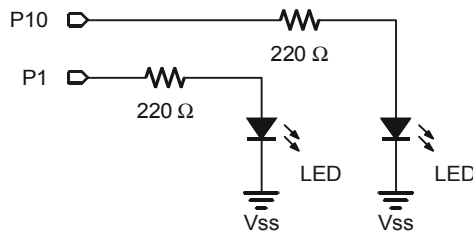

Figure 5-9
- √ If you have a Board of Education, add the circuit shown in Figure 5-9 with the help of the wiring diagram in Figure 5-10 (page 175).
- √ If you have a HomeWork Board, add the circuit shown in Figure 5-9 with the help of the wiring diagram in Figure 5-11 (page 176).